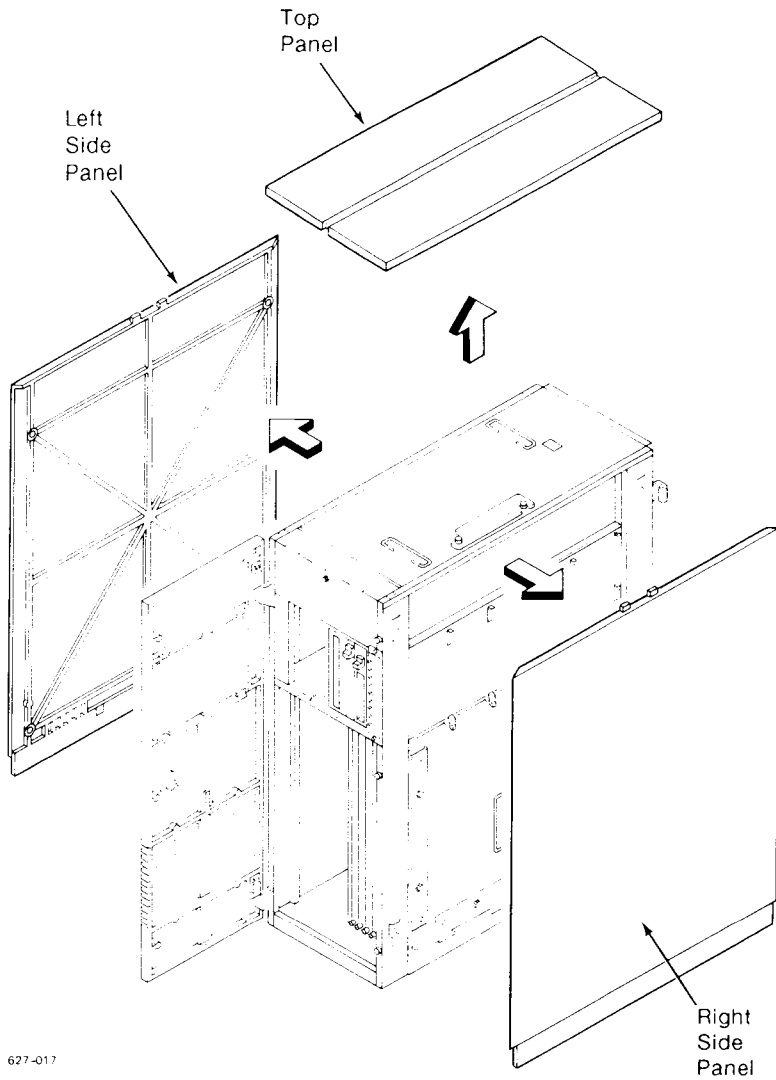

Figure 8-1. Removing the Top and Side Panels
3. Push the top panel back about 1/2 inch to free the top panel from the cabinet. Lift the top panel straight up and off (see Figure 8-1).
5. Move to the QIC tape drive side, and grasp the side panel at both sides. Lift it straight up about 1/2 inch, and then pull the panel towards you until it is free of the cabinet (see Figure 8-1).